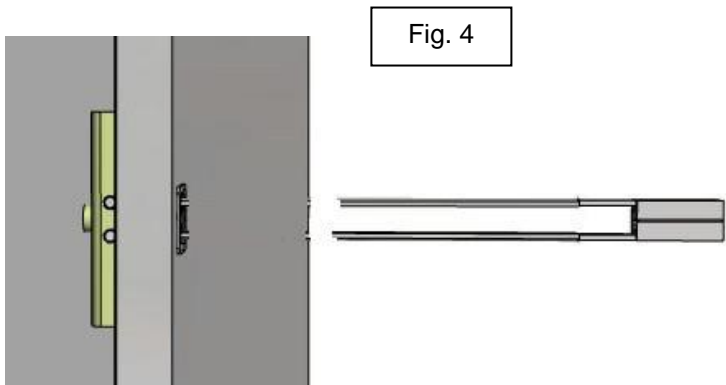

Fig. 4
4. Cut or snap straps at wall by pushing side to side, snapping off straps level with flange of cap. Fig. 4